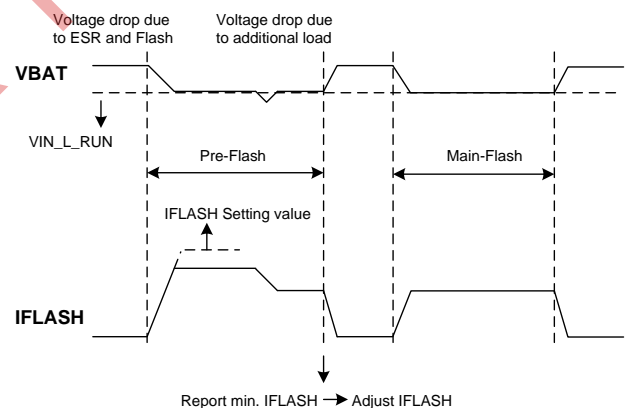

Figure 15: Pre-Flash Operation
1. Before the flash, if VBL_SD = 1 and the input voltage is lower than the threshold set by VBL_RUN, the device remains disabled and sets the fault bit FT_VBATL to 1 (see Figure 15). Conversely, if VBL_SD = 0, the device ramps up to the current set by I_TX and sets the fault bit FT_VBATL to 1. The fault bit is cleared after it is read back or the input power is reset.